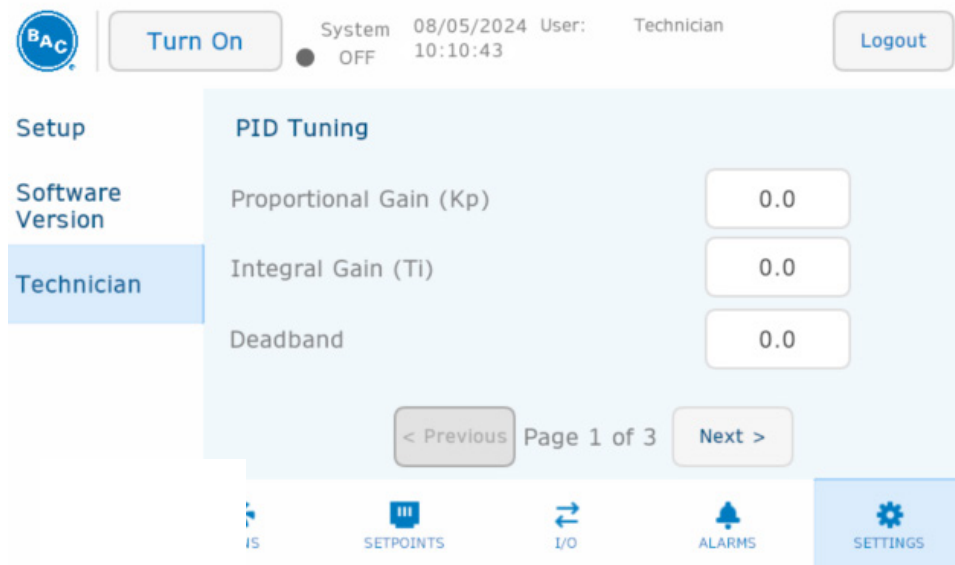

Figure 106. PID Tuning Menu, Technician Page 1 of 3
The Technician menu is only displayed and accessible with Technician access level. Refer to **Table 10** Table 10. Access Levels and Passwords on **Page 52**. The Technician menu is shown in **Figure 106** with parameters listed in **Table 37**. Note that changing the Kp (proportional gain) parameters may result in a hunting phenomenon.
2. Navigate to Settings menu, Technician Page 2 of 2 as shown in **Figure 106**.